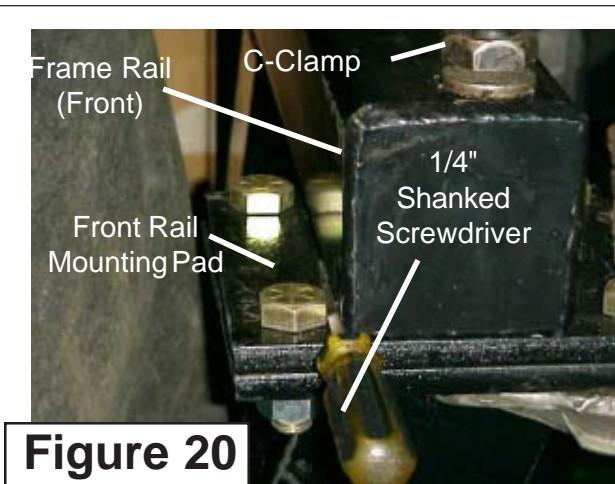

Figure 20
13. Align Frame Rails on Front Mount Pads. Locate the Front Frame rails on the mount pad so that there is room for the Bolt heads to clear the Frame Rail. Here we have wedged a Screwdriver with a 1/4" shank between the Bolt Head and the Frame Rail. Anything about that size can be used to keep enough distance so bolt can be removed and reinstalled without interference. Use a C-Clamp to hold it in place when aligned. Do this on Both the RH and LH side. (**See Figure. 20**)